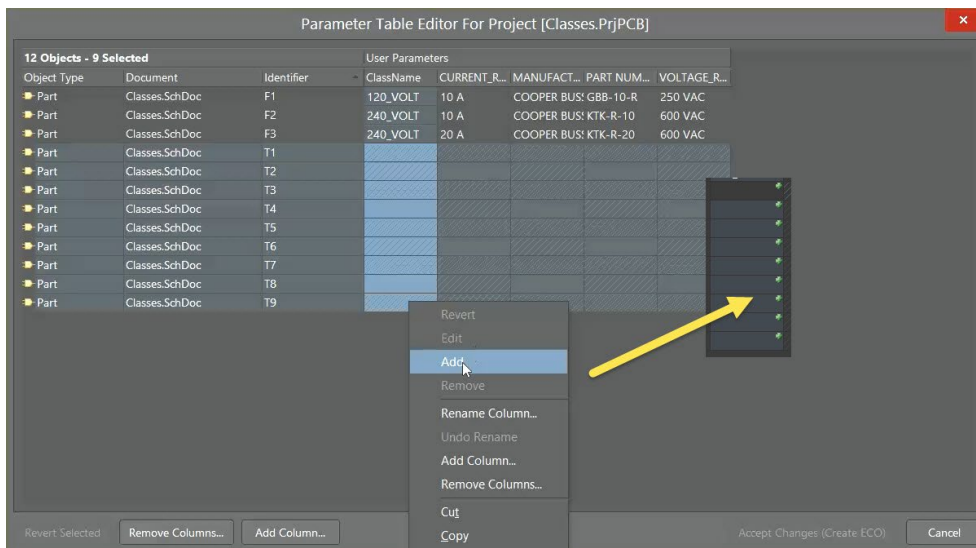

Figure 5. Parameter Table Editor for the Project
29. Select the T1 through T9 *ClassName* column entries, Right Click and select **Add**. Refer to Figure 5. This will add Plus Symbols for editing, indicated by the arrow and inset image.